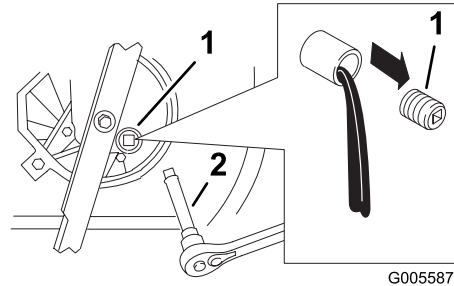

Figure 20
5. Remove the oil drain plug, return the mower to its operating position, and allow the oil to drain into the drain pan (Figure 20).